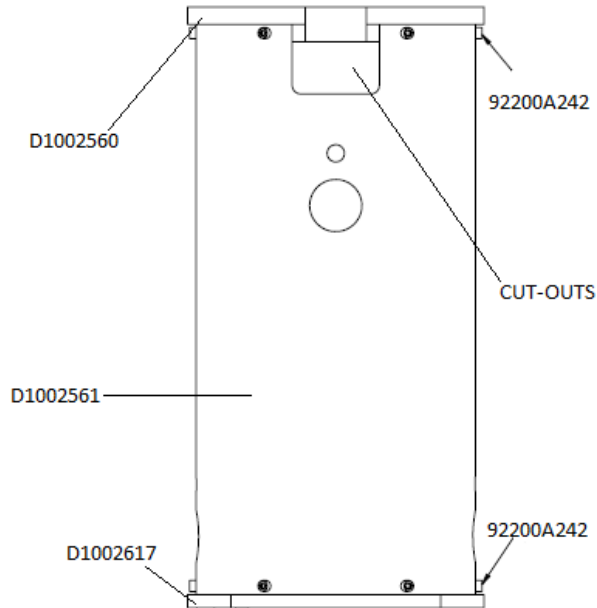

Figure 6: Eddy Current Damping Tube Assembly
1. Insert D1002560 - SLC DAMPING TUBE TOP PLATE into D1002561 - SLC DAMPING 8 INCHES DIA TUBE, see Figure 6. Align with fastener holes and cut-outs.
2. Insert D1002617 - SLC DAMPING TUBE LOWER PLATE into D1002561 - SLC DAMPING 8 INCHES DIA TUBE, see Figure 6. Top and lower plate edges should be aligned with fastener holes.